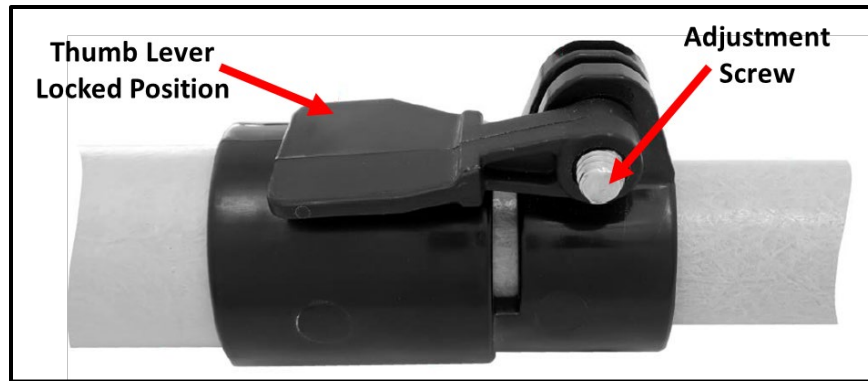

Figure 5. Mast Quick-Clamp
- c. The thumb lever on each mast Quick-Clamp is in the **locked** position. Refer to Figure 5.
- (1) Each mast section is gripped firmly by a Quick-Clamp and cannot be easily extended.